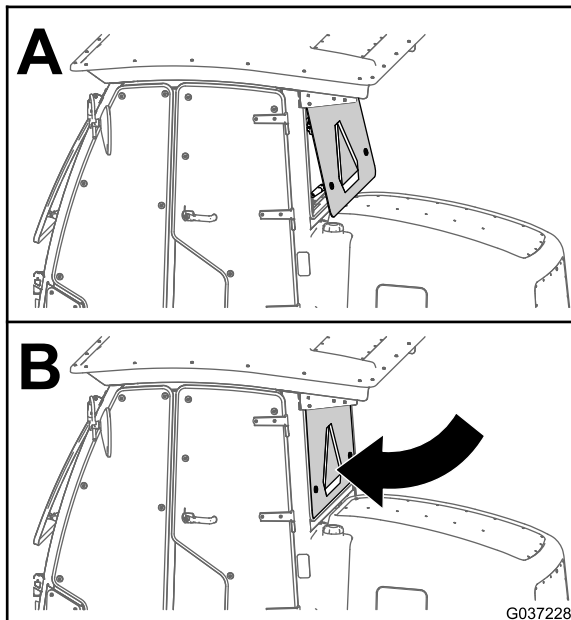

Figure 74
1. Close the rear window of the cab (Figure 74).